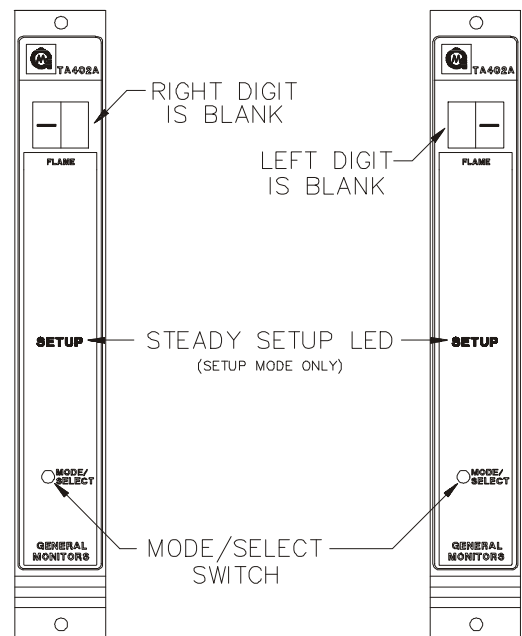

Figure 14
- This option applies to the Setup Mode only:** If the password option is enabled, the right digit of the display will be blank and a bar (-) will appear in the left digit on the display (figure 14). Press the Mode/Select switch until the desired number is displayed, then wait about five seconds. The left digit of the display will be blank and a bar (-) will appear in the right digit on the display (figure 14). Press the Mode/Select switch until the desired number is displayed, then wait about five seconds. If the password is correct the user will proceed with the inhibit option. If the password is incorrect the user will not be able to proceed and unit will return to the normal operating mode. Once in the operating mode the user may attempt to re-enter the Setup Mode. The factory default password is 00.